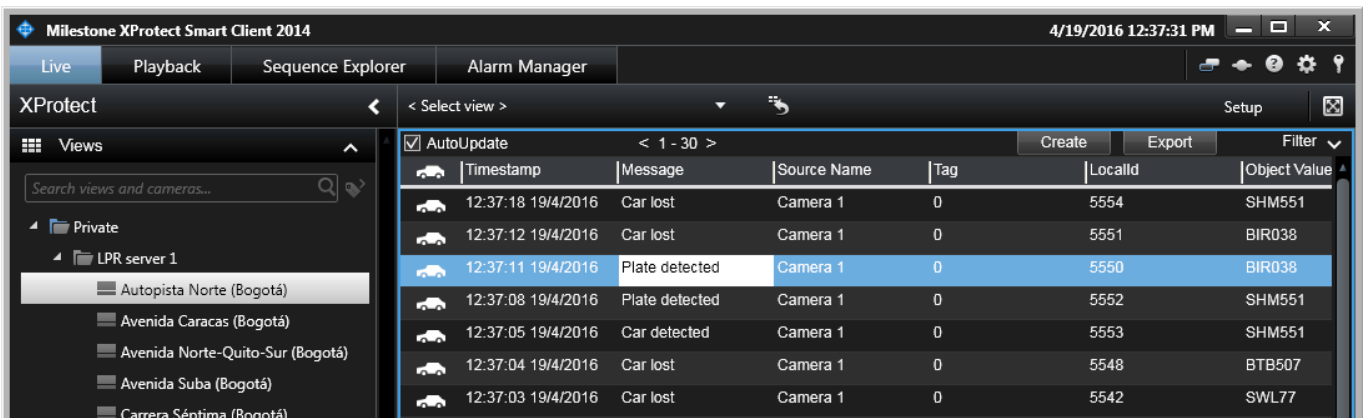

Figure 5: Selecting an event in license plate protocol
2. Double-click the event in the license plate protocol (Fig. 5). Filtering and searching for events is described further in this user guide.